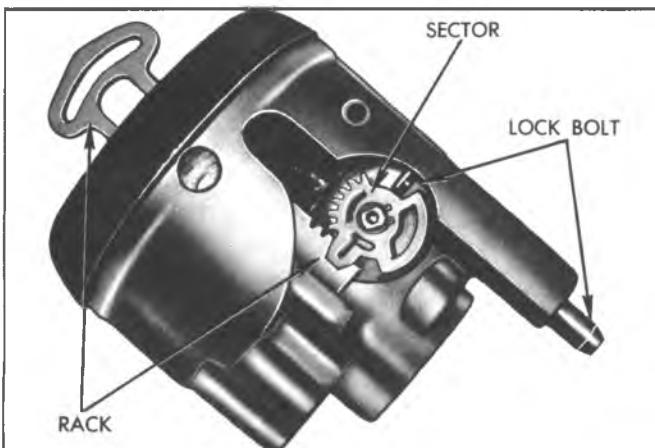

Fig. 79—Installing Lock Bolt and Rack Assemblies
- e. Install the lock bolt and engage it with the sector cam surface. Then install the rack and spring. The block tooth on the rack should engage the block tooth on the sector (fig. 79). Install the external tilt release lever.